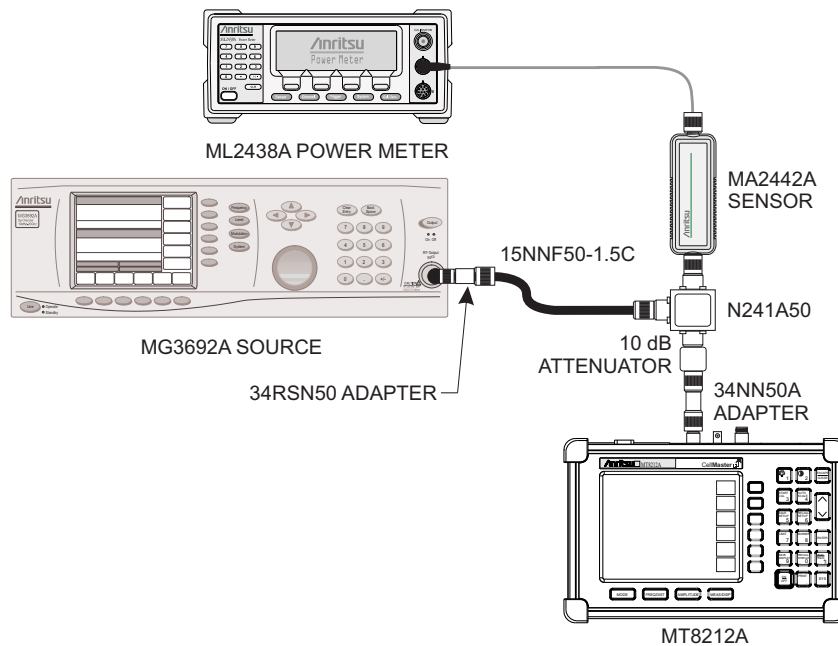

Figure 2. Level Accuracy Test Setup
17. Using the power splitter, coaxial cable, adapters and fixed attenuator, connect the Cell Master to the signal source and the power sensor as shown in Figure 2.